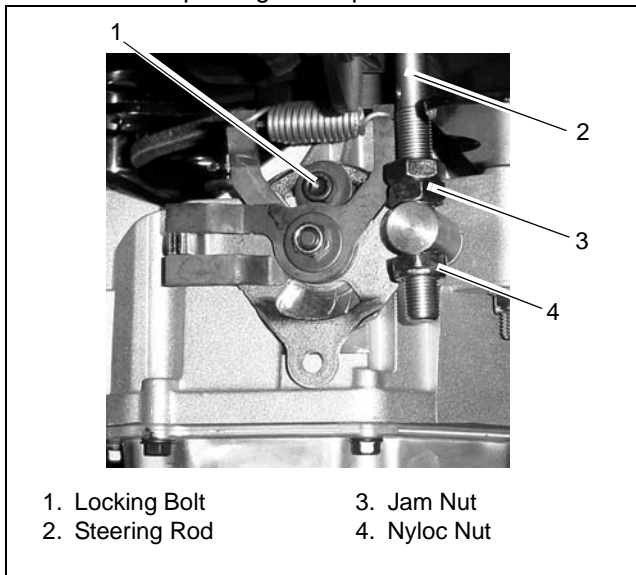

Figure 12
1. Use a hex wrench to loosen the locking bolt (Figure 12).